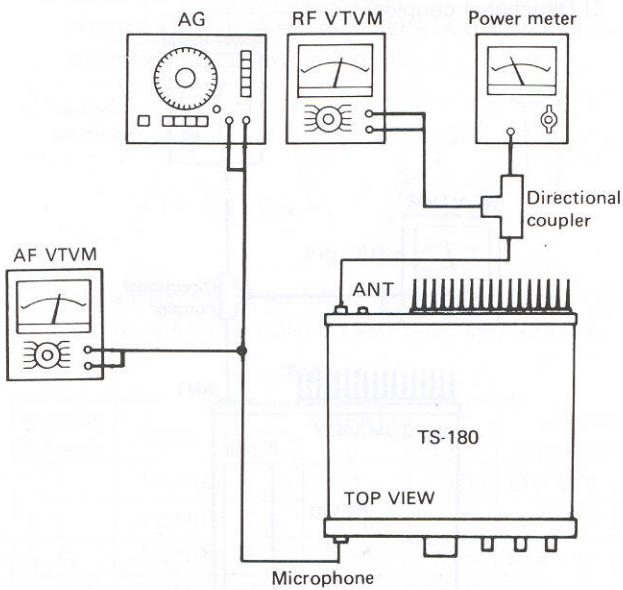

Fig. 42 Carrier point adjustment
2. Adjusting procedure (Fig. 42)